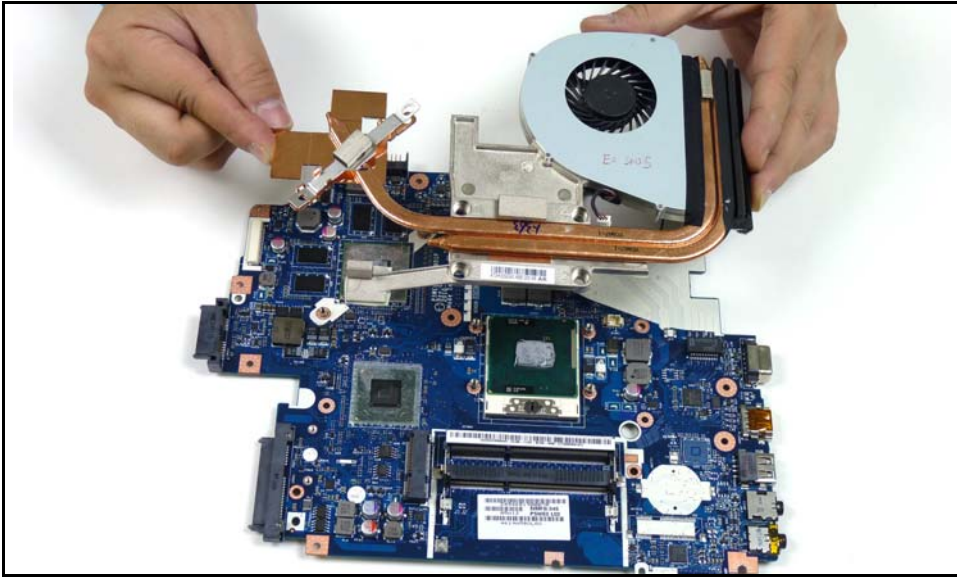

Figure 3-49. Thermal Module Installation
3. Align module and heatsink to mainboard screw holes (Figure 3-49).